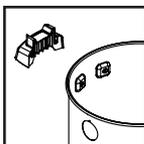

FIGURE 18
13. Remove any webbing that attaches the tank handles to each other. Take the side tank handle with the letter L and position it on the outside of the tank where the support assemblies are installed. The U-shaped cutout on the bottom end of the handle must face the rear of the tank. Secure the handle to the tank with the screws in the support assemblies. **FIGURE 18.**